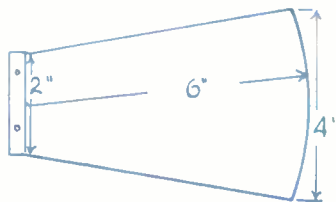

Fig. 4
The cupola is to be covered with thin sheet metal, bent over and secured with round-headed screws driven into the end pieces and also in part (E), but leave the fixing until the rod (C) is finally fitted in. The fin (F) is partly shown in Fig. 1 as a guide to the fixing positions. Fig. 4 shows the complete fins which can be marked out on sheet metal. The inner edge is drilled for fixing screws and bent outwards at right angles. Fix the fin to its end of the cupola with screws, exactly central.